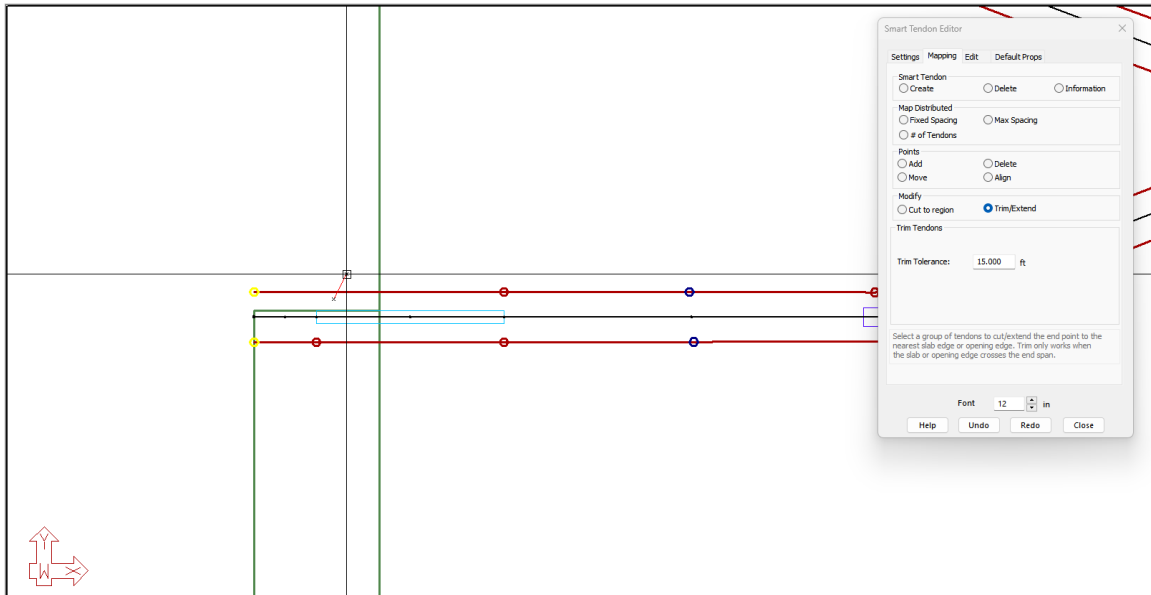

FIGURE 9-46
- Zoom back in on the left end of the second banded tendon group from the bottom. Click the first point of the two-point construction in the leftmost span, below the top tendon of the tendon group as shown in **FIGURE 9-46**.